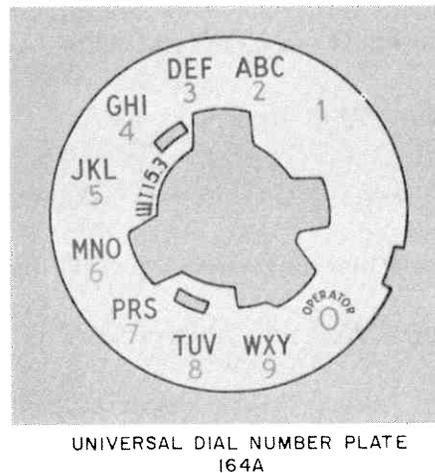

Fig. 3 — 164A Number Plate
2.02 The 164A number plate (Fig. 3) is intended for general station use with 5- and 6-type dials. (See Table B for other number plates available for use with 5- and 6-type dials.)